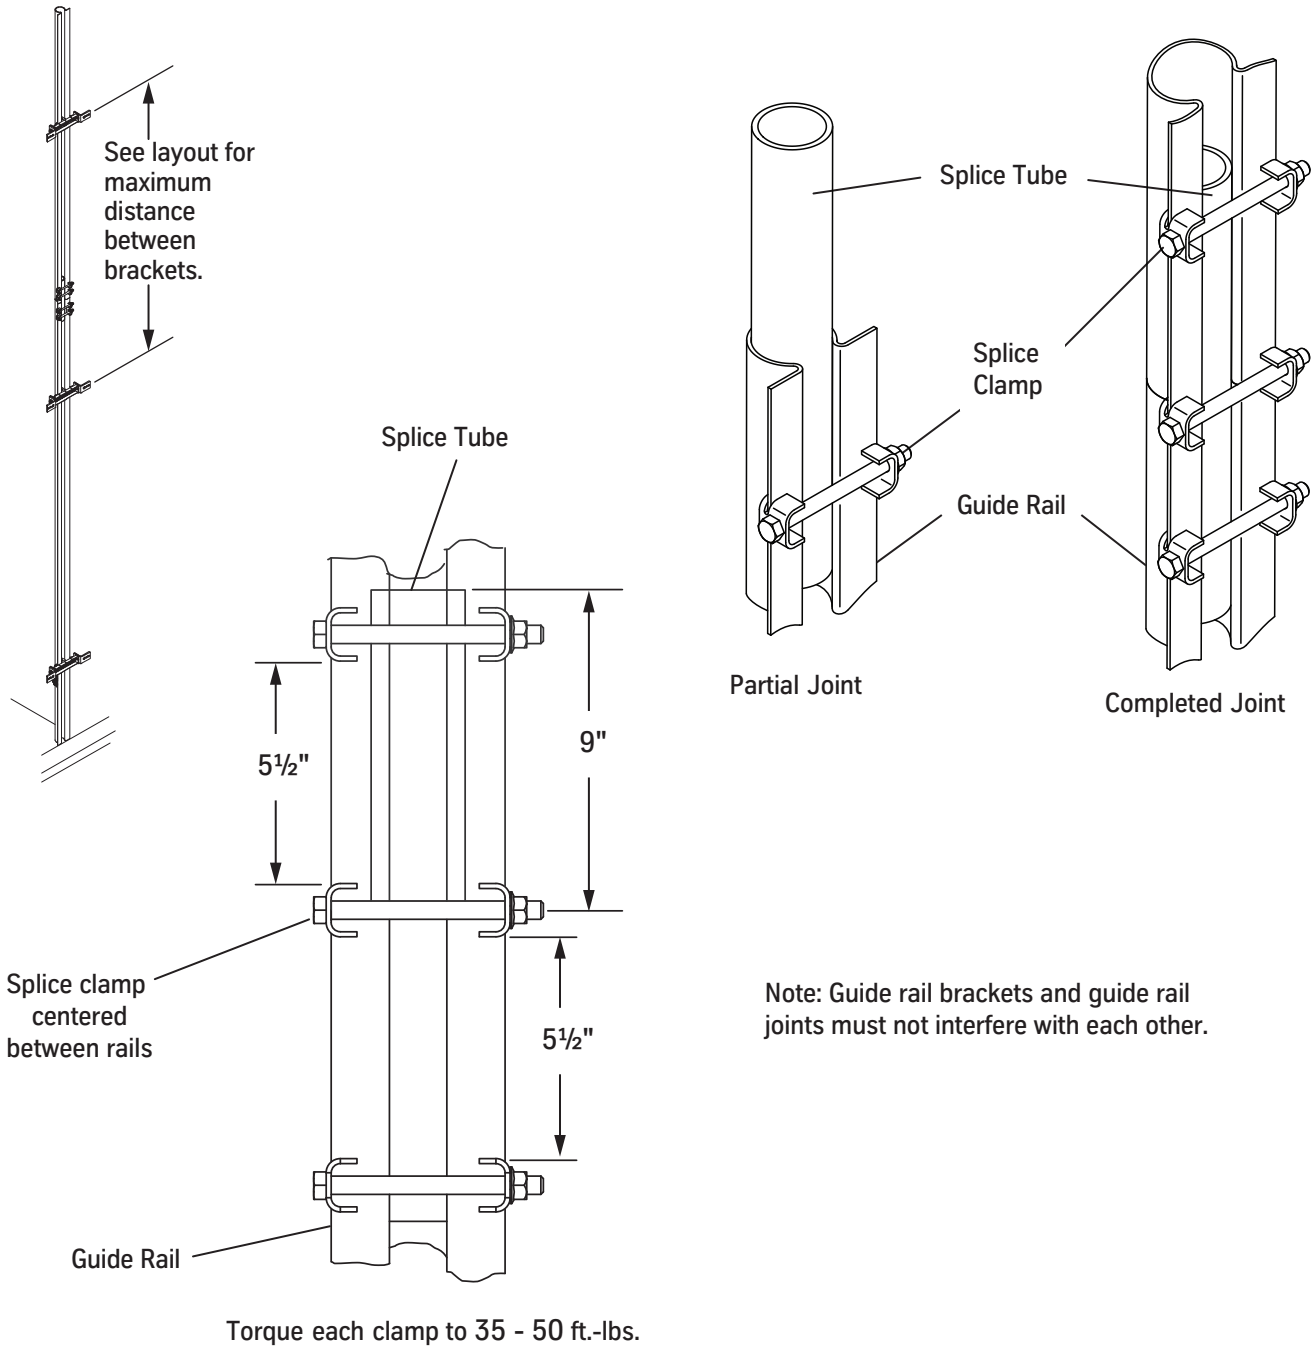

Figure 39 - Rail Splice and Final Rail Installation
2. Install the lasers on the pit template underneath the rails. See Figure 39 on page 67 for all steps in this procedure.